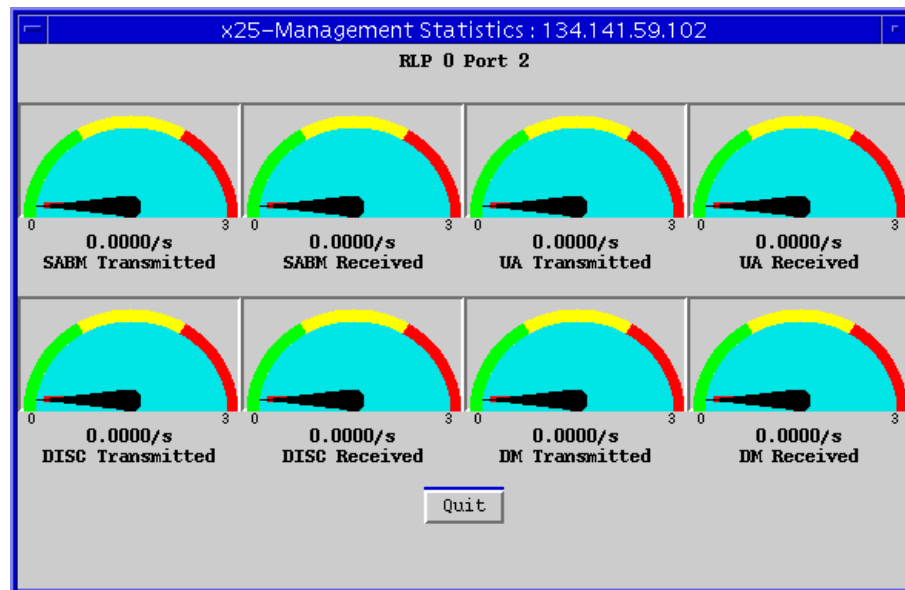

Figure 6-2. X.25 Management Stats
2. Drag down to **X25 Management Stats**, and release. The X25 Management Statistics window, Figure 6-2, will appear.